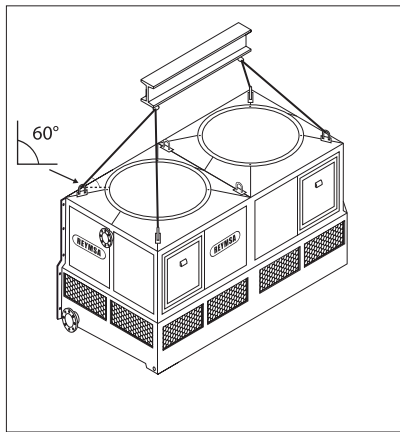
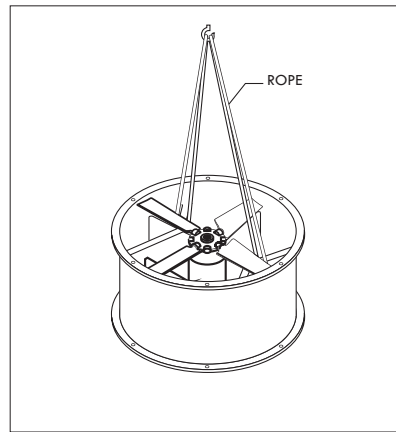

Figure A-15: Handling tower section 1 quadruple fan tower
Figure A-16: Fan duct lifting
- B. After assuring the equipment is received in proper conditions, proceed to unload it from the transportation vehicle, piece by piece with a crane (using a spread bar) or forklift of the appropriate capacity. See examples on Figure A-15 and Figure A-16. For crane lifting, it's recommended to use a minimum lifting angle of 60° between the strap and the horizontal.